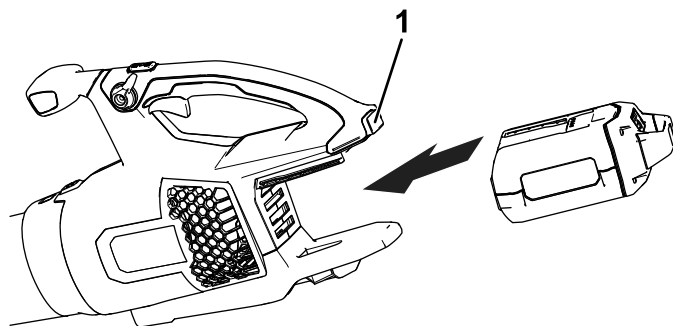

Figure 6
2. Align the cavity on the battery pack with the tongue in the handle housing (Figure 6).
3. Grasp the handle, and push the battery pack into the handle until the latch locks into place (Figure 6).